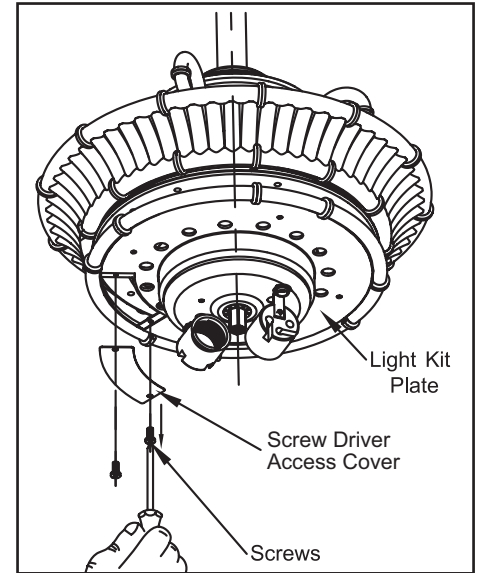

Figure 8a
3. Remove the screw driver access cover on the light kit plate to expose the blade bracket screw holes (Figure 8a).